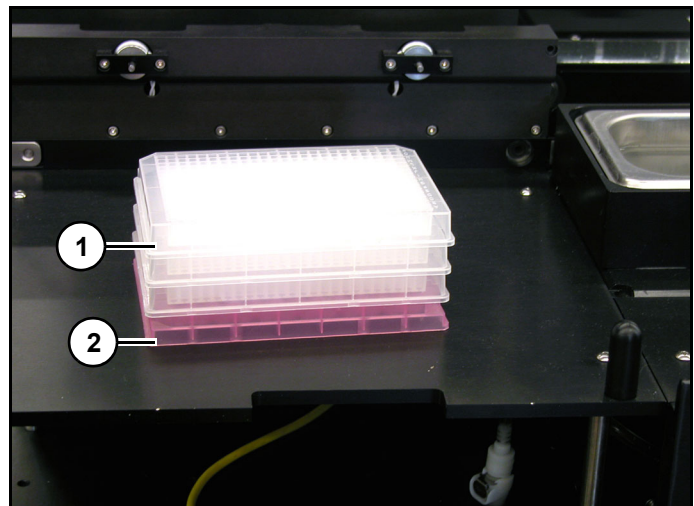

Figure 3
1. Set a stack of plates (1) on a flat surface with one extra plate (2) on bottom of stack. (Figure 3)